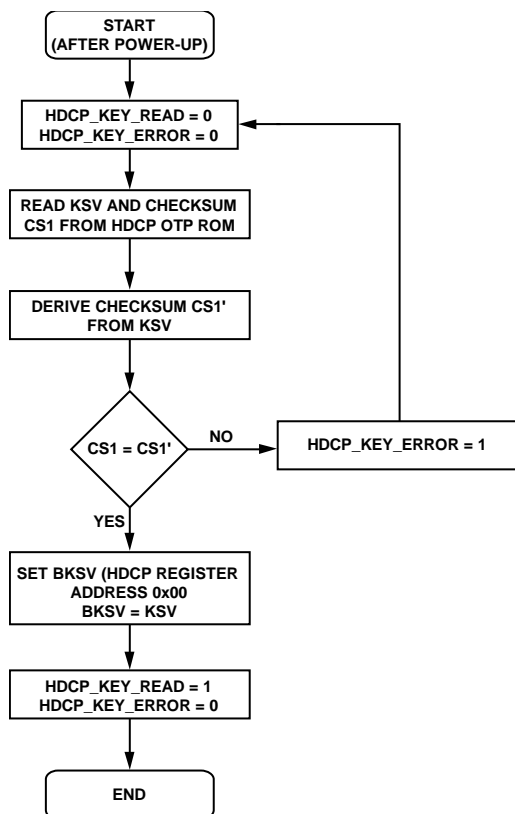

Figure 6. HDCP ROM Access After Power-Up
- After a power up, the ADV7611 reads the KSV from the internal HDCP ROM (refer to Figure 6).